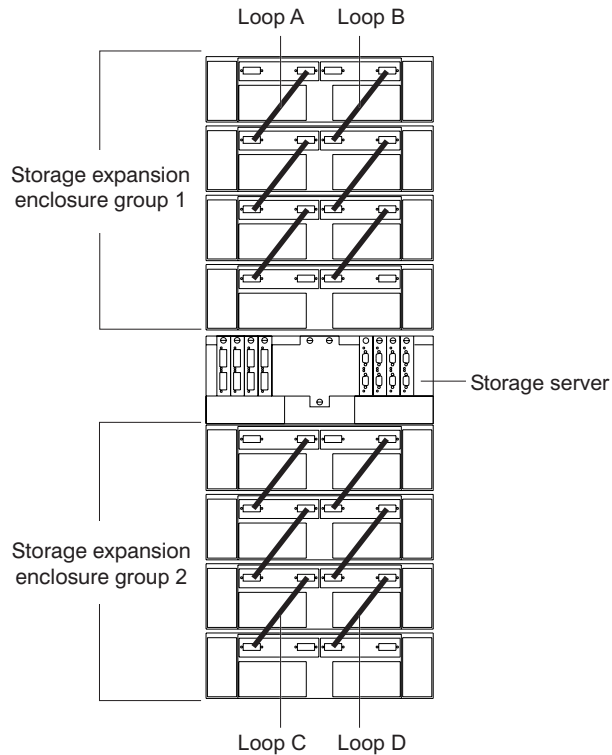

Figure 33. Connecting a second redundant storage expansion enclosure group (loops C and D)
4. Repeat Step 1 on page 33 through Step 3 to connect a second redundant storage expansion enclosure group. Figure 33 on page 35 shows a second redundant storage expansion enclosure group (loop C and loop D on storage expansion enclosure group 2).